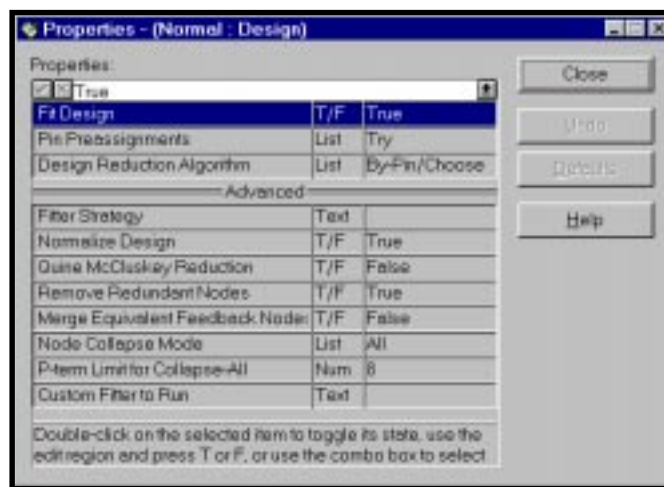

Figure 4-22. Fit Design Properties Dialog Box for PAL Designs
2. If you have a MACH device, no properties can be set for the Fit Design process. If you have chosen a PAL device, the ispDesignExpert software has several user controls that can be accessed from the Navigator; highlight Fit Design and click the **Properties** button at the bottom of the Navigator window. The Properties dialog box (Figure 4-22) with design settings in it appears. See the online help for explanations.